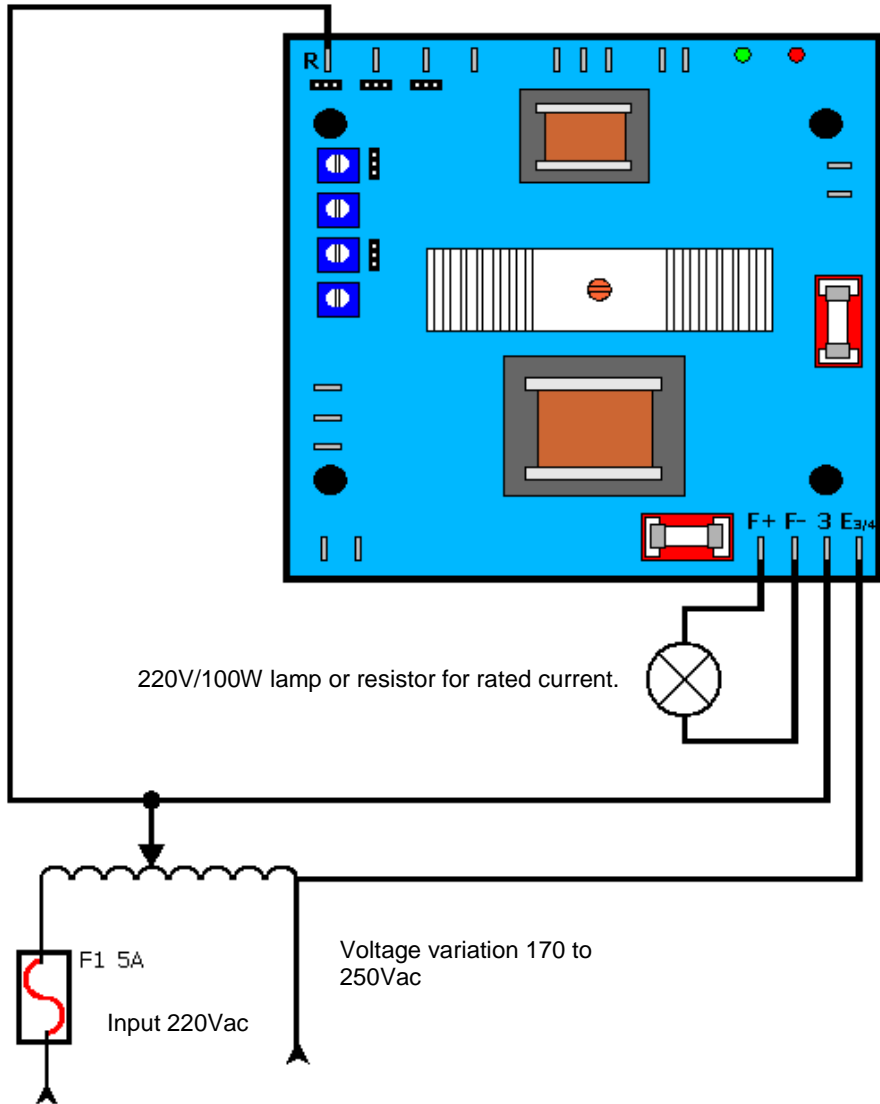

Figure 20.1 - Regulator connection without generator.
1. The lamp voltage must be the same voltage applied on the input. The figure 20.1 shows an example using a 220V/100W lamp.